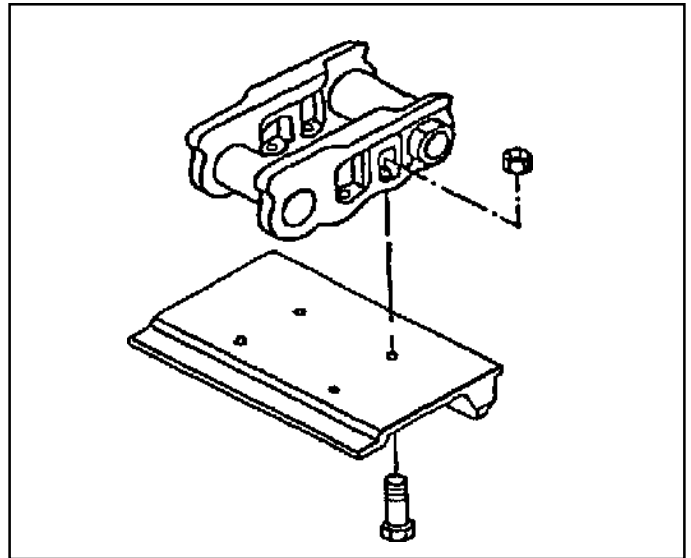

Fig. 2-6 Track Shoe Removal
1. After track chain is separated, remove track shoe from damaged link (fig. 2-6).